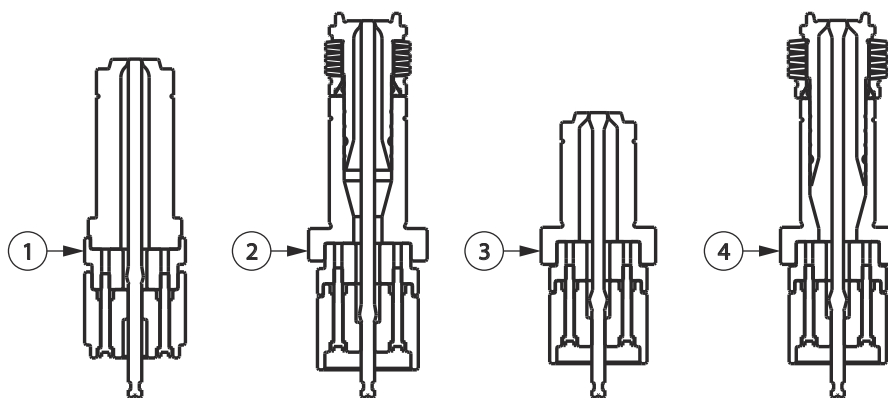

Figure 7-51: Universal Lapping Tool Configurations
1. Slide the valve stem through the lapping tool. Figure 7-51 shows the possible lapping tool configurations depending on your system.
8. Repeat procedure for all split sprue bar interfaces (reconfigure the universal tool per Figure 7-51).